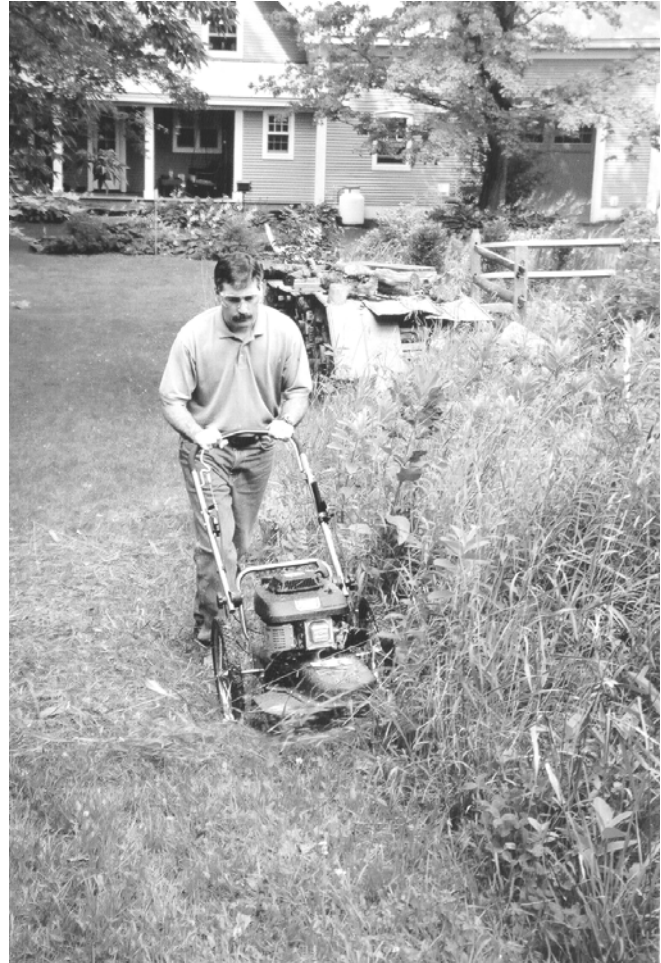

Figure 17
- Be sure to keep uncut material to your left, maintaining a clear discharge area to your right (**Figure 17**).